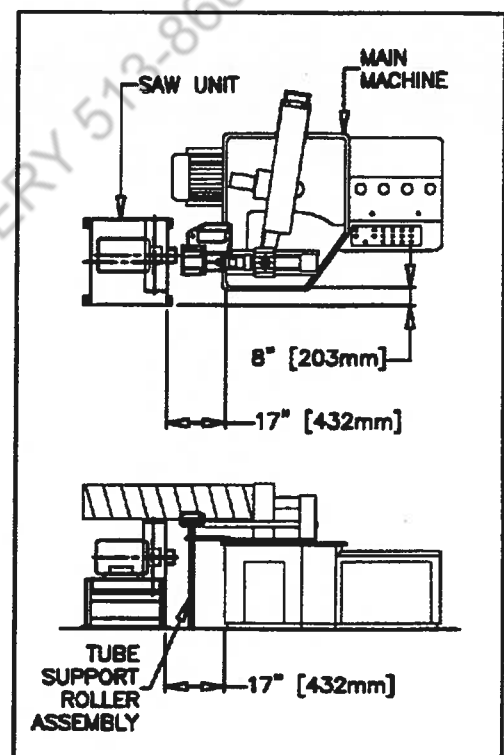
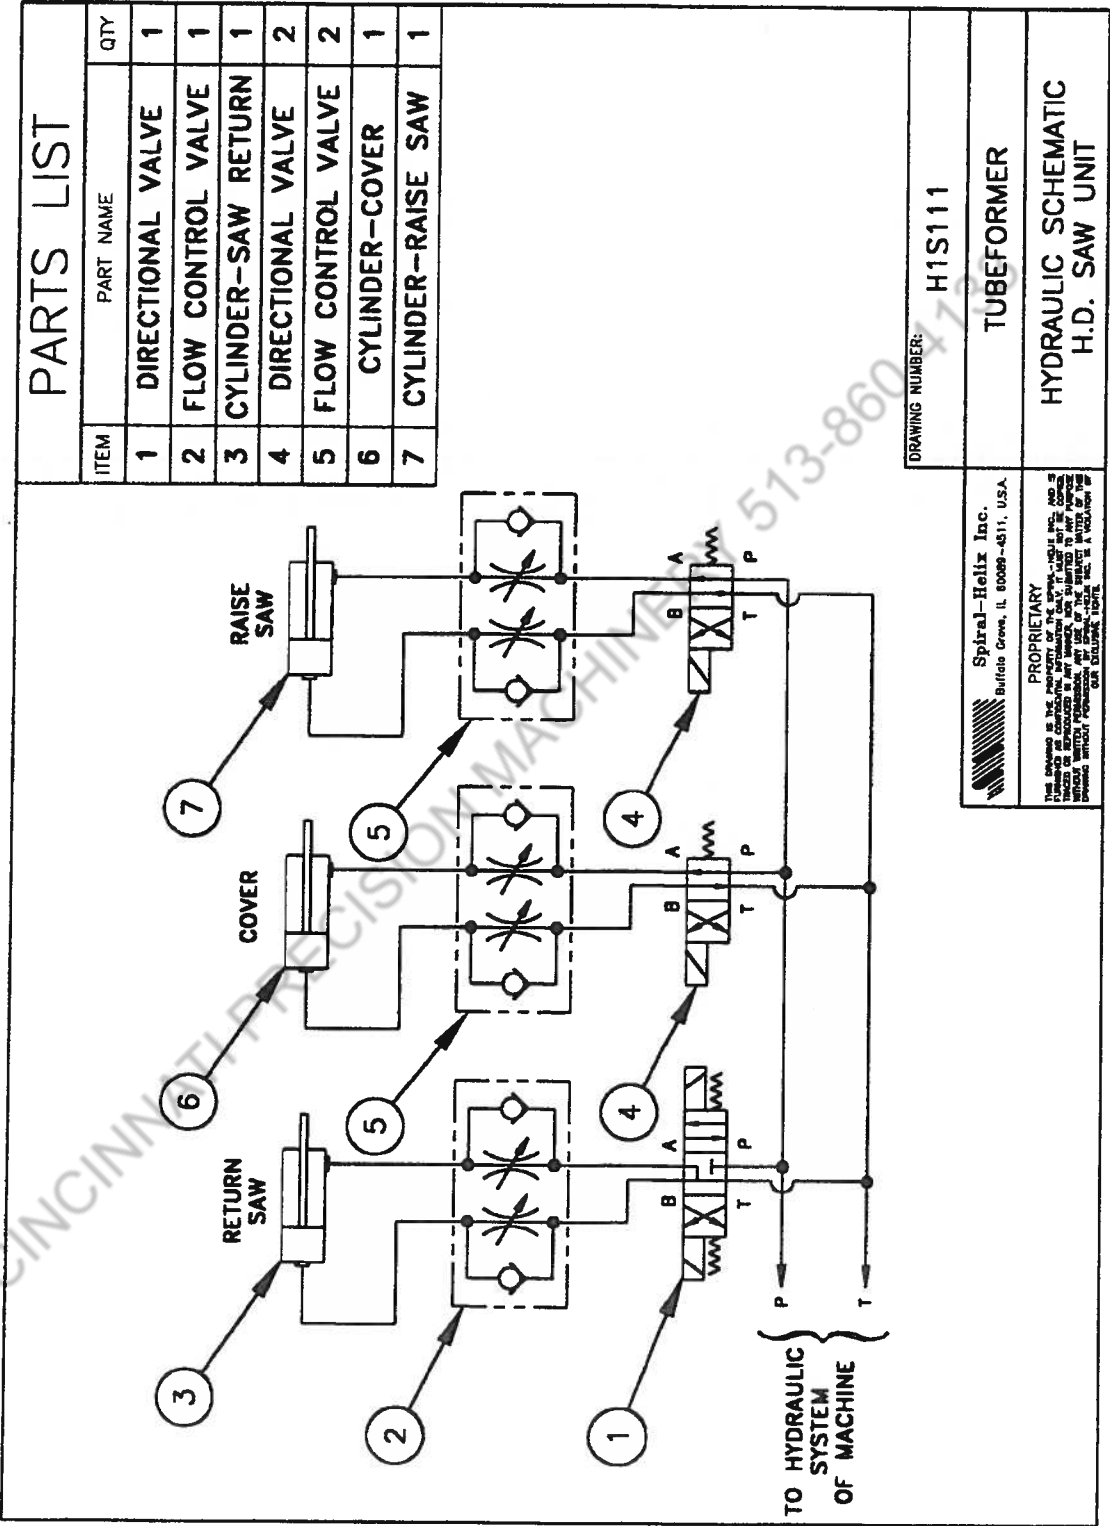

Fig. 45 - Saw Unit Mounting Position
Fig. 46 - Saw Unit Hydraulic Schematic
6.4.4.1 If not done already, move the crated saw unit into approximate position; and remove the saw unit and its components from the palletized crate. Safely set the pallet, the crating material and packaging aside for reuse, or dispose of per local safety practices. Mount the four adjustable leveling feet to the unit and put rubber antiskid pads under the leveling feet. Move the saw unit into position (Fig. 45). Connect the two hydraulic hoses per the Saw Unit Hydraulic Schematic (Fig. 46). Being careful to observe all local safety practices, connect the factory pre-labeled wiring from the electrical conduits of the main machine electrical circuit into the saw unit terminal box(es). Loosen and remove the YELLOW safety cover locking bolt. Move the locking collar (Fig. 47) on the linear bar to allow the saw blade and motor assembly to move back and forth; and reposition the locking collar to make it into a stop block for preventing the saw blade from bottoming out on the side of the saw blade cover. Check the saw blade M16 locking bolt and the two KM14 lock nuts (Fig. 48), and make sure that the bolt and nuts are tight and secure. Make square cut adjustments per the instructions in Section 6.4.4.2; and anchor the saw unit.